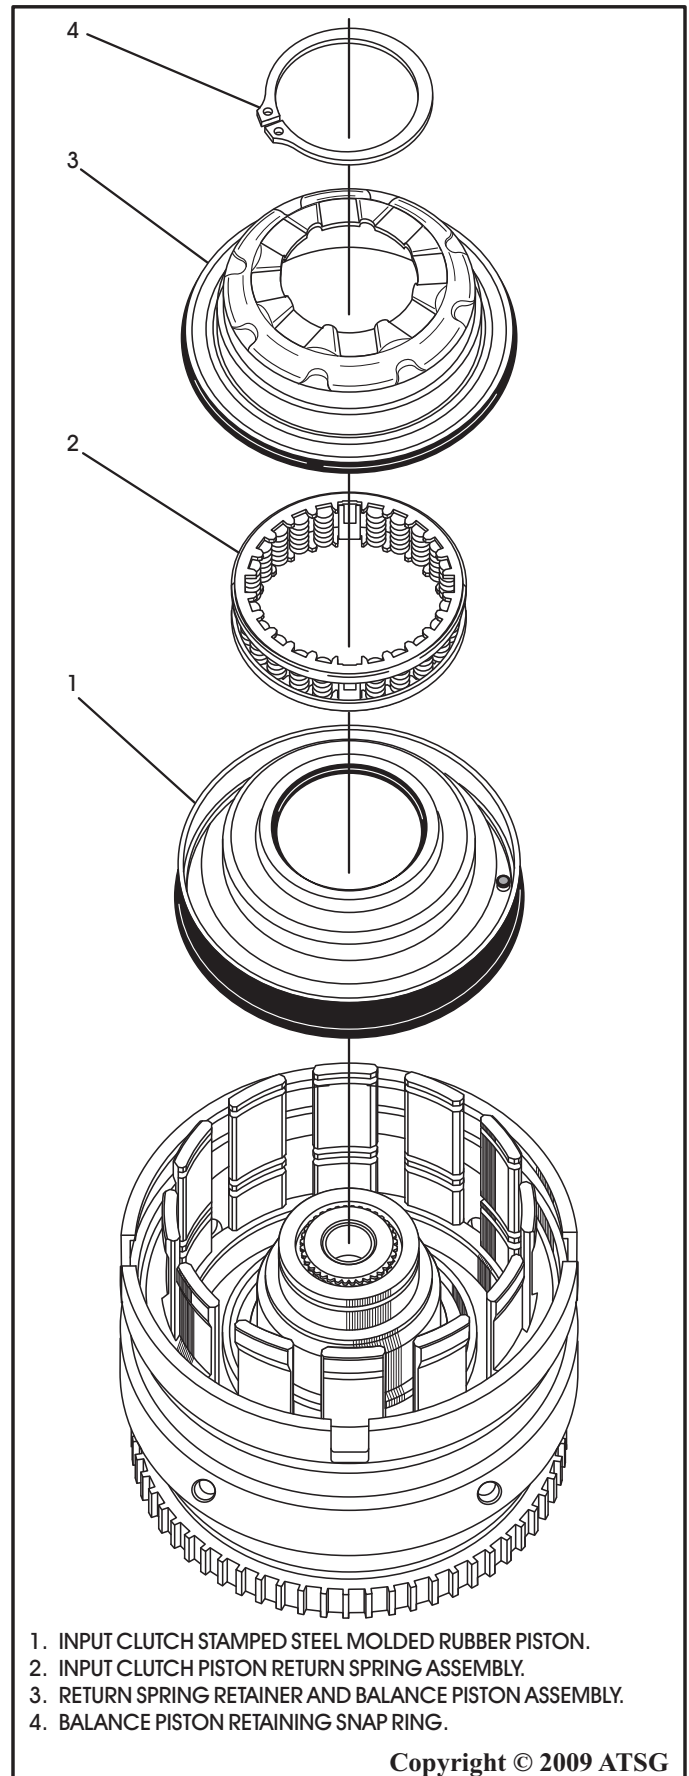

Figure 77
17. Install the input clutch molded rubber piston in input clutch retainer as shown in Figure 77.
18. Install the input clutch piston return spring on top of the input clutch piston (See Figure 77).
19. Install the spring retainer/balance piston, as shown in Figure 77. The balance piston also has a molded seal.
20. Using a suitable shop press, compress return spring assembly and install the flat snap ring into the groove. Refer to Figure 77 and snap ring chart in Figure 71.